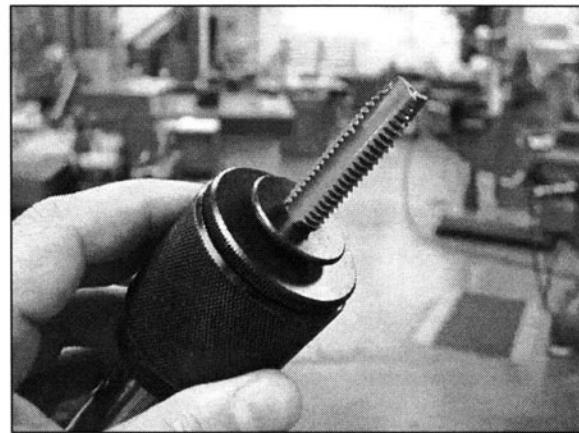

FIGURE 15-8 Quick change tap holders allow dull and broken taps to be changed quickly.
34. Quick change tap holders work well in CNC machines. (See Fig. 15-8)